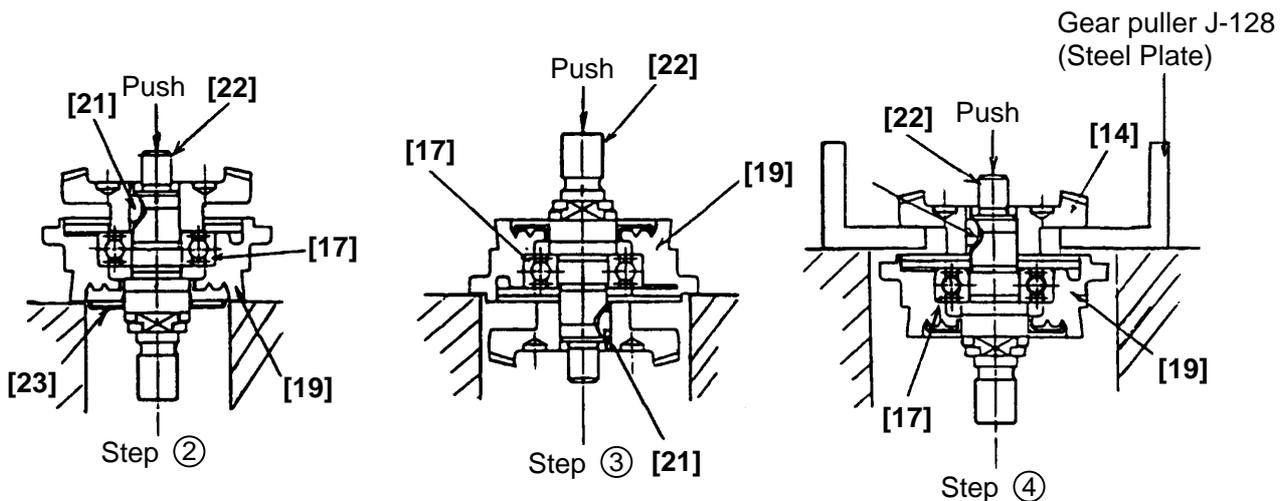

Fig. 3
(3) Disassembly of the gear (Fig. 3)
- ① Loosen the M4 x 12 Seal Lock Screw [20] fixing the Packing Gland [19], and remove the Packing Gland [19] from the Gear Cover Ass'y [3].
- ② Support the bottom of the Packing Gland [19] with a jig, and push down on the upper portion of the Spindle [22] with a hand press until the end surface of the Woodruff Key [21] contacts the Ball Bearing [17] and the Spindle [22] cannot be pushed down any more. Be careful not to deform the Fringer [23].
- ③ Turn the Packing Gland [19] upside down and fix it, then push down the Spindle [22].
- ④ Insert the gear puller J-128 (use of a steel plate is permitted as a substitute) between the Gear [14] and the Packing Gland [19], and push down the Spindle [22] with a hand press to remove it.